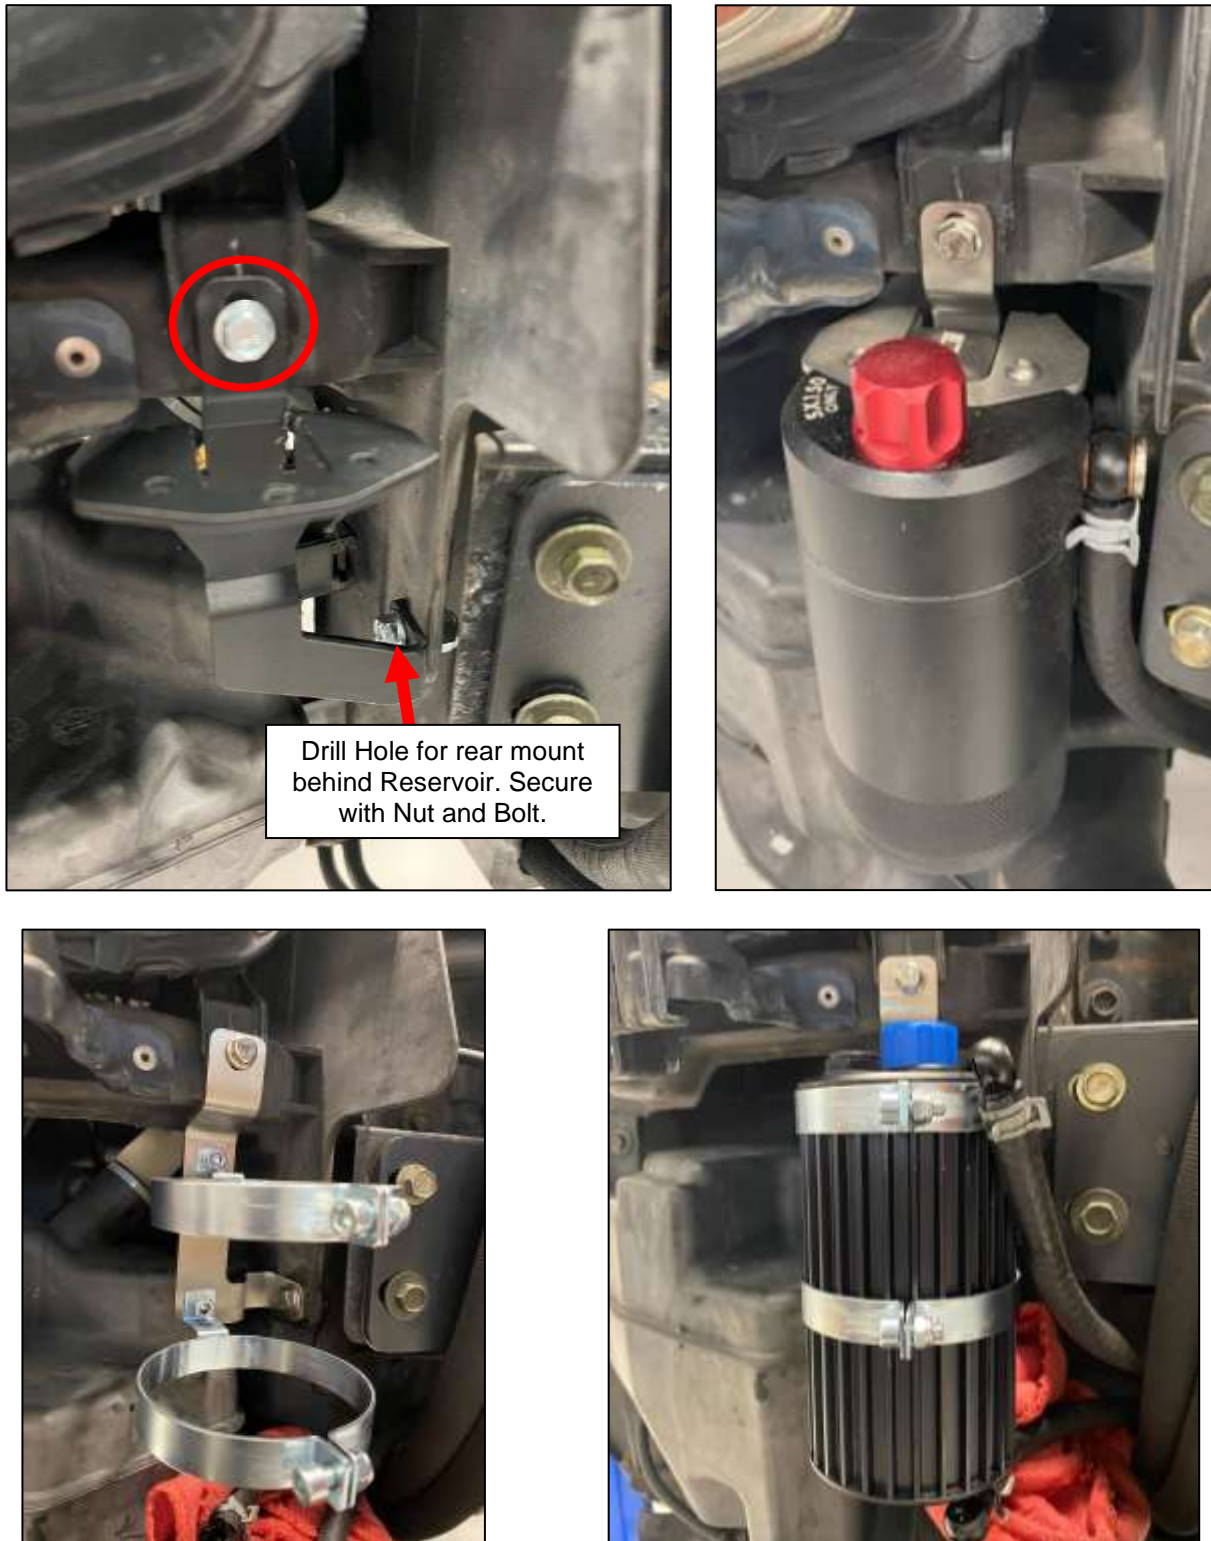

Figure 53
- b. **G35 Owners:** The Reservoir Bracket (#86) comes with Hardware. Mount the Top of the Reservoir under the Passenger headlight as shown below. The rear Mount will need to be marked on the Core Support and drilled. After drilling, secure the mount with the included Nut and Bolt. Rotrex Reservoirs can now be installed into the Clamps. Tighten the clamps with the supplied hardware to secure the Reservoir. *Figure 53.*